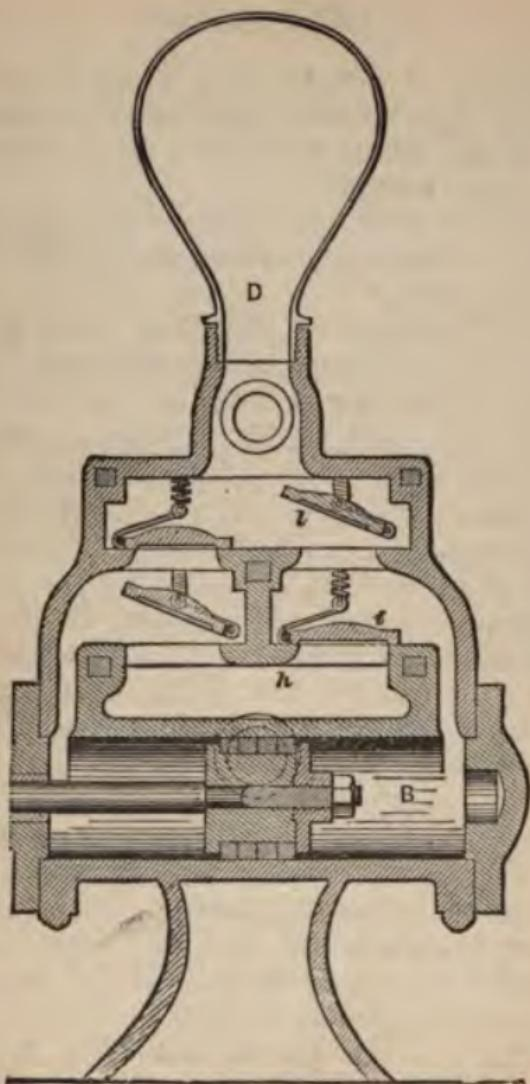

FIG. 34 — CARRICABURU WATER END, LENGTH-WISE SECTION.
A. Referring to the four cuts given herewith: Figs. 34 and 35 represent longitudinal sections of both steam and water cylinders, and readily explain the whole arrangement. The principal feature is to be found in the valve, which is of the steam-actuated type. This valve, which is marked *F* in the cut, is moved by two small pistons, *G* and *G'*, working in special cylinders, as shown. The steam and exhaust ports for the pump cylinder are marked 4, 5, 6 and 7, while 10 is a port from this cylinder into a cylinder containing the valve piston *G*, and 8 a similar port to the cylinder containing the piston *G'*; 11 and 9 are ports between exhaust ports 5 and 6 and the cylinders *G* and *G'* respectively. Presuming the parts to be in the position shown, the steam is passing through the port 7 and the piston is moving to the